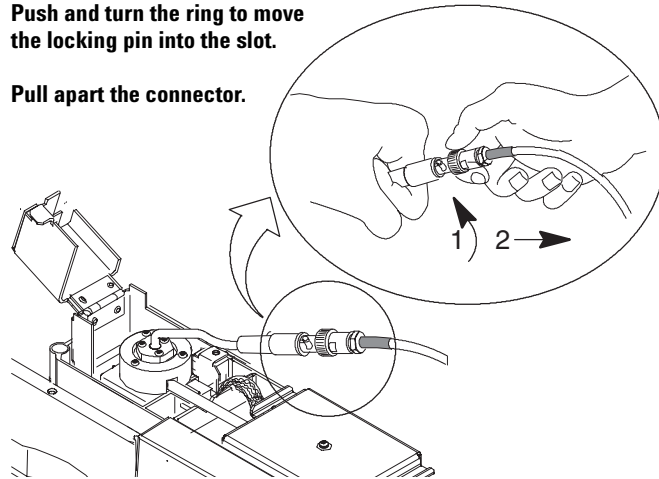

Figure 3 Disconnecting the bead connector
- 1 Disconnect the NPD bead connector from the blue cable by twisting the ring and pulling the ends apart as shown in Figure 3.